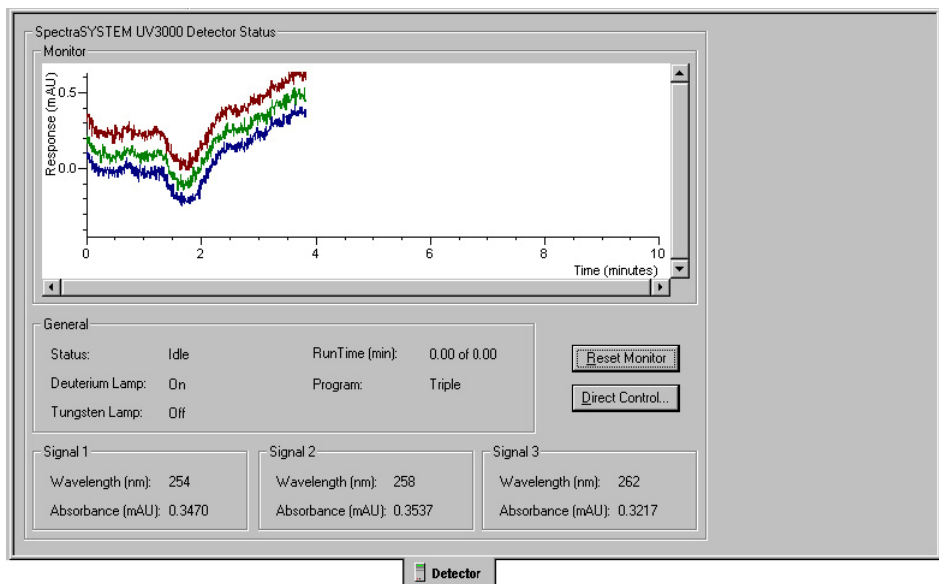

Figure C.1 UV3000 Detector Status window
3. From the bank of tabs located at the bottom of the Instrument Status window, click on the Detector tab to display the Instrument Status window for the UV3000 shown in Figure C.1.